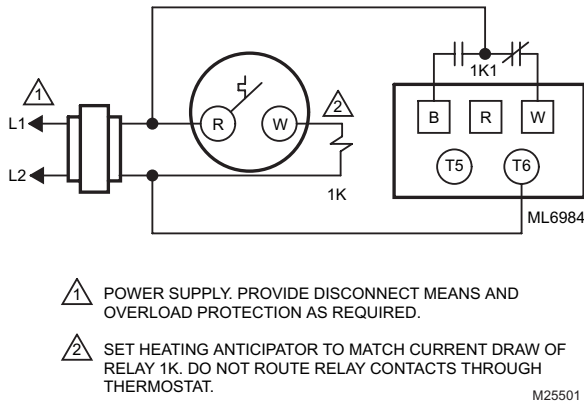

Fig. 17. ML6984 with Honeywell T87F Round™ Thermostat.
For on-off operation, ML6984 requires a 24 Vac SPDT contact. An interface relay such as RA889 is required to power the anticipator heater of an electromechanical thermostat such as T87F (See Fig. 17).
- When replacing the old ML784 (mA model) in multiple-actuator installations, resistor(s) will be needed. Use Resistor Kit (part no. 272822) and set DIP switches accordingly. See Figures 17 and 18.